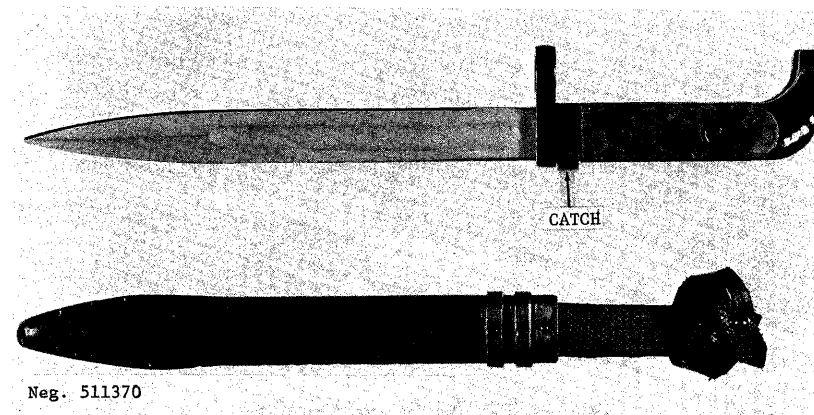

Figure 71. AK-47 bayonet.
(2) The combined drift, screwdriver, and wrench have several uses: To adjust the front sight, mate the screwdriver blade to the slot near the end of the case, slip the wrench over the front-sight post, and turn as necessary. Unscrew the post in order to move the strike of the bullet downward. To use the screwdriver, reverse the combination tool, but place it in the center oval holes, with the wrench end engaged in the smaller hole.
c. The bayonet (fig 71) is affixed by positioning its loops in front of the muzzle nut and the gas cylinder body, and sliding the bayonet to the rear until the bayonet catch engages the muzzle nut. The bayonet is removed by pulling the catch—located behind the hilt—away from the handle and sliding the bayonet forward and off.